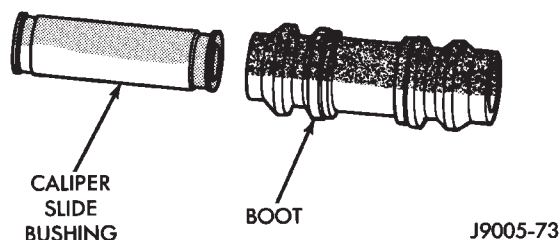

Fig. 16 Caliper Slide Bushing And Boot
(6) Remove caliper slide bushings and boots (Fig. 16).